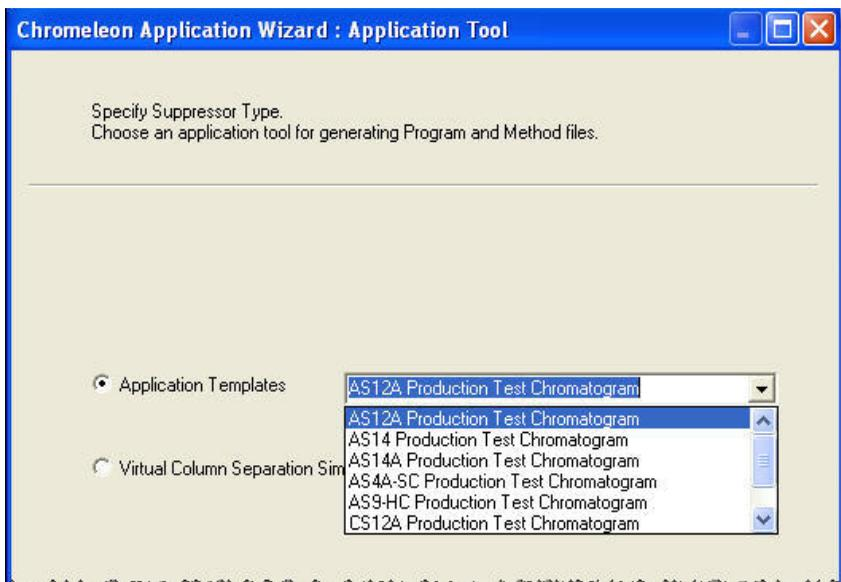

Figure 3-8. Application Wizard
- b. Select an application template from the list (see Figure 3-8).